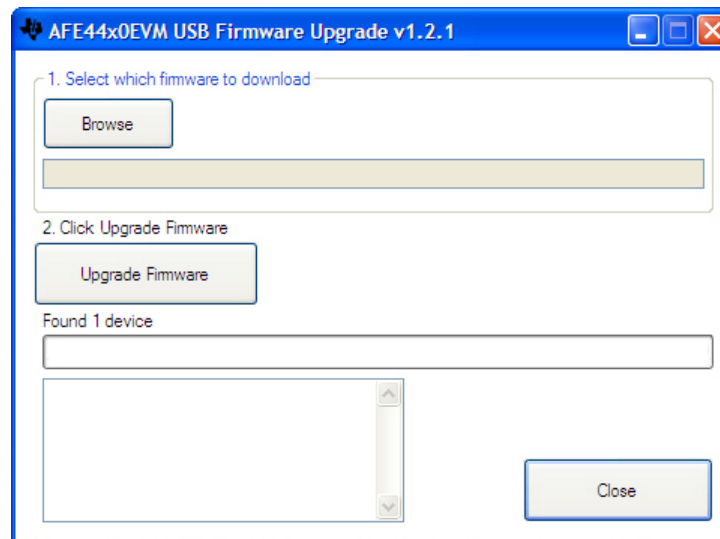

Figure 33. PC Application Firmware Upgrade – 2
- The firmware upgrade application detects the connected EVM. (Figure 33)